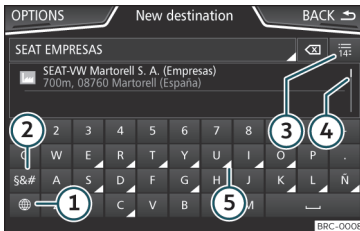

Fig. 155 Input window with on-screen keypad.
Suggestions for matching destinations appear depending on the characters entered in the input line » Fig. 155 ④. In the case of compound names, it is necessary to enter a space.